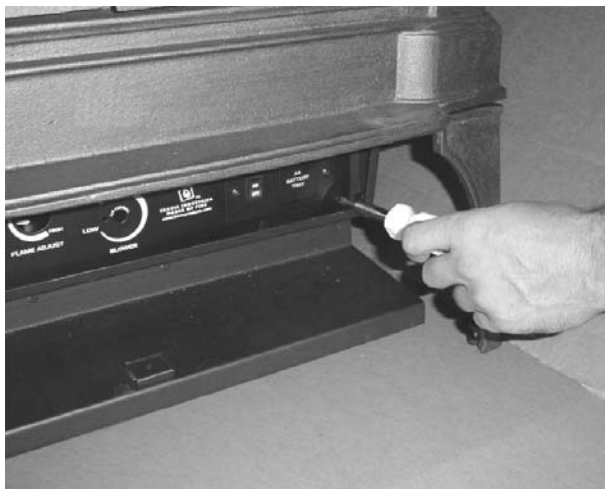
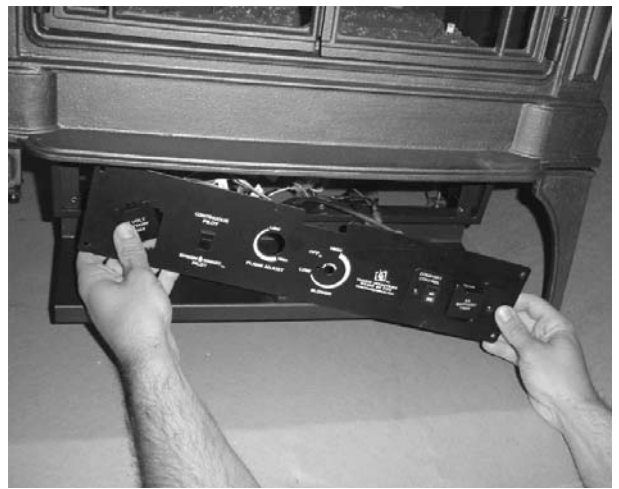

Figure 3
Figure 4
- 2 Remove the four screws holding the control panel to the front of the stove (see Figure 3). Carefully remove the control panel, making sure you do not disconnect any wiring (see Figure 4).